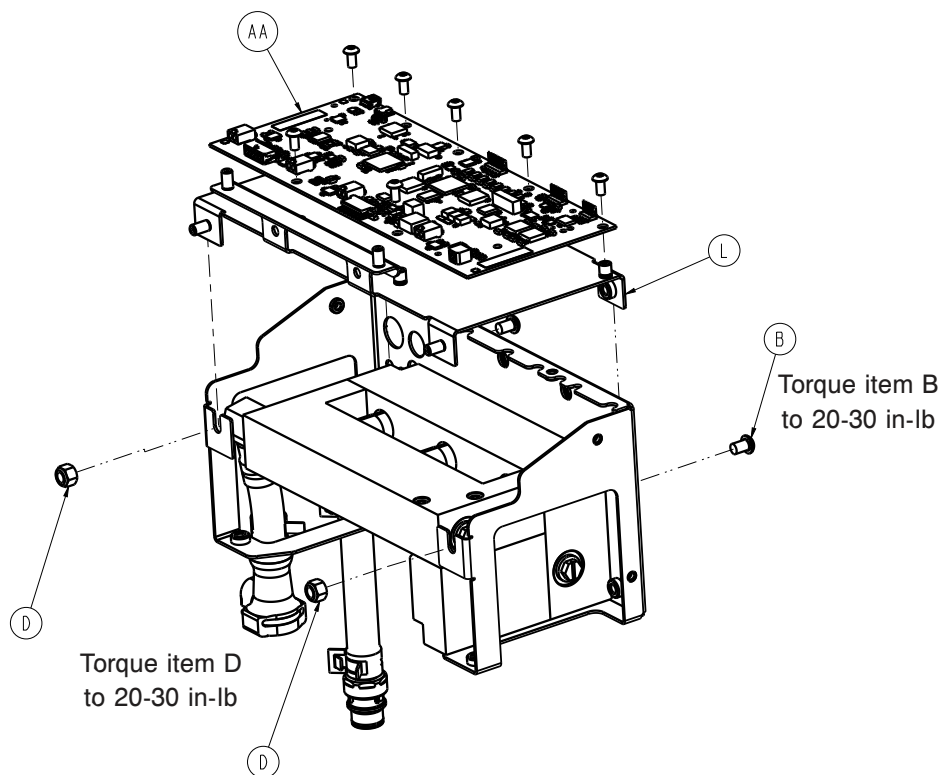

Figure 45: MCB bracket
15. Using a T27 torx, remove and save the two screws (B) (Figure 45 on page 60) that secure the MCB bracket to control assembly bracket.